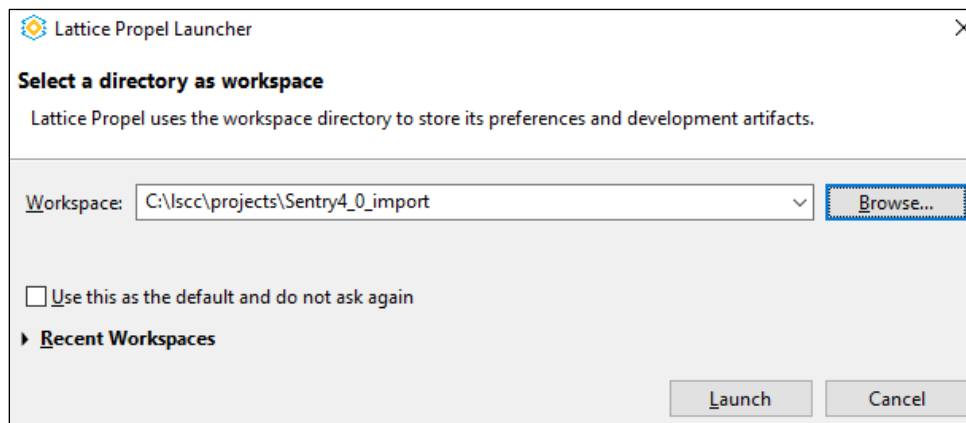

Figure 5.2. Lattice Propel Launcher – Select Directory for Importing SoC and C Projects
2. In the Lattice Propel launcher, click **Browse** and navigate to the directory created in the Create a Blank Workspace section, Step 1 (Figure 5.2).
2. In Lattice Propel Launcher, click **Browse** and navigate to the directory created in the Create a Blank Workspace section, Step 1 (Figure 5.2).